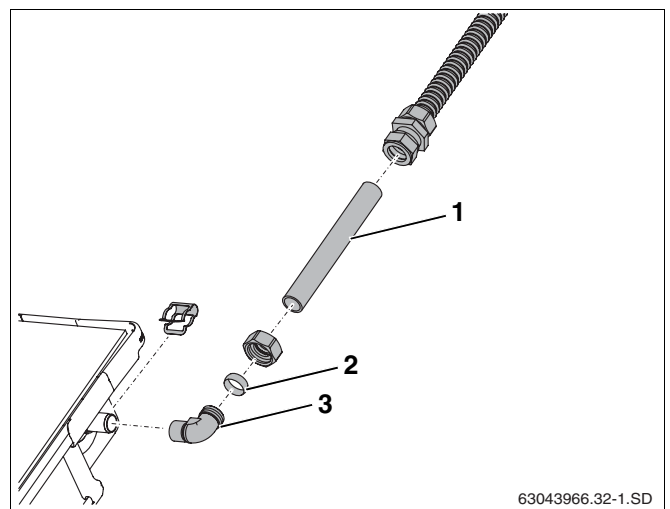

Fig. 61 Lengthening the connection pipe
- ▶ Fit olive (Fig. 61, **Item 2**) and nut to bracket (Fig. 61, **Item 3**).
- ▶ Push copper pipe (cut to appropriate length) (22 mm, Fig. 61, **Item 1**) into compression fittings.